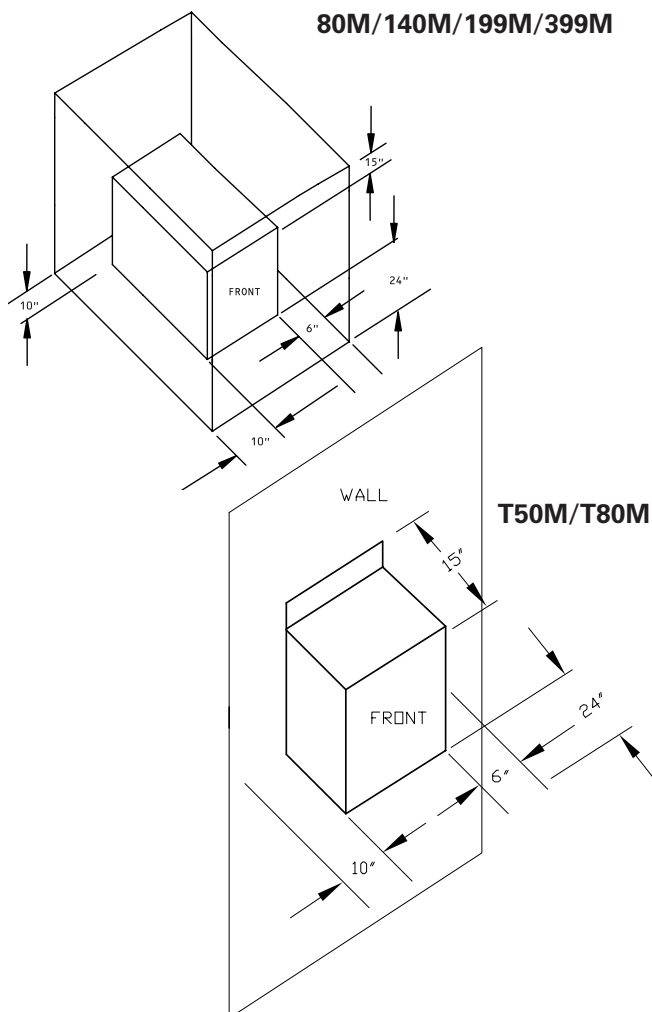

Figure 3-1: Clearances required
- See Figure 3-1 for recommended service clearances. If you do not provide minimum clearances shown, it might not be possible to service the boiler without removing it from the space.